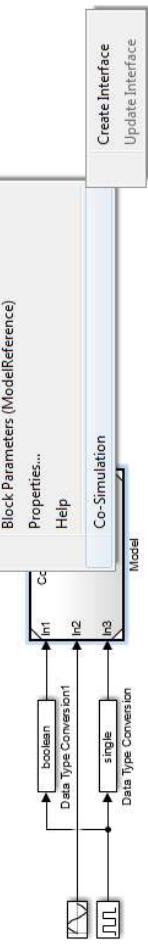

Figure 14-3 Generating a client block
- Right-click on the block for the target model (in Figure 14-3: “Model” block).
- To generate a client block for co-simulation, select “Co-Simulation, Create Interface” in the context menu (see Figure 14-3).